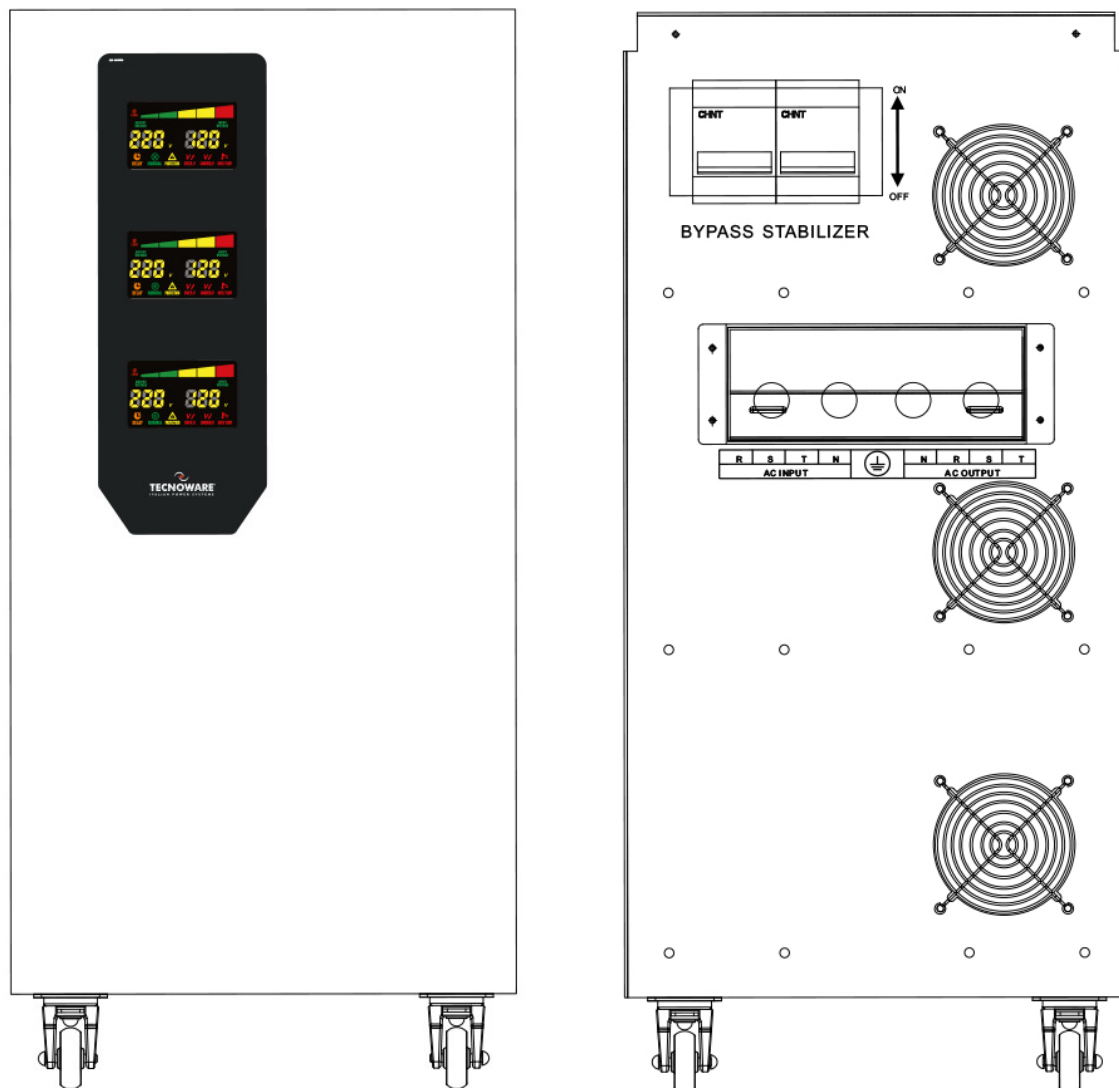

Figure 6 - Front side and rear side
3. Three Phase models (see figures 6, 7 and 9).